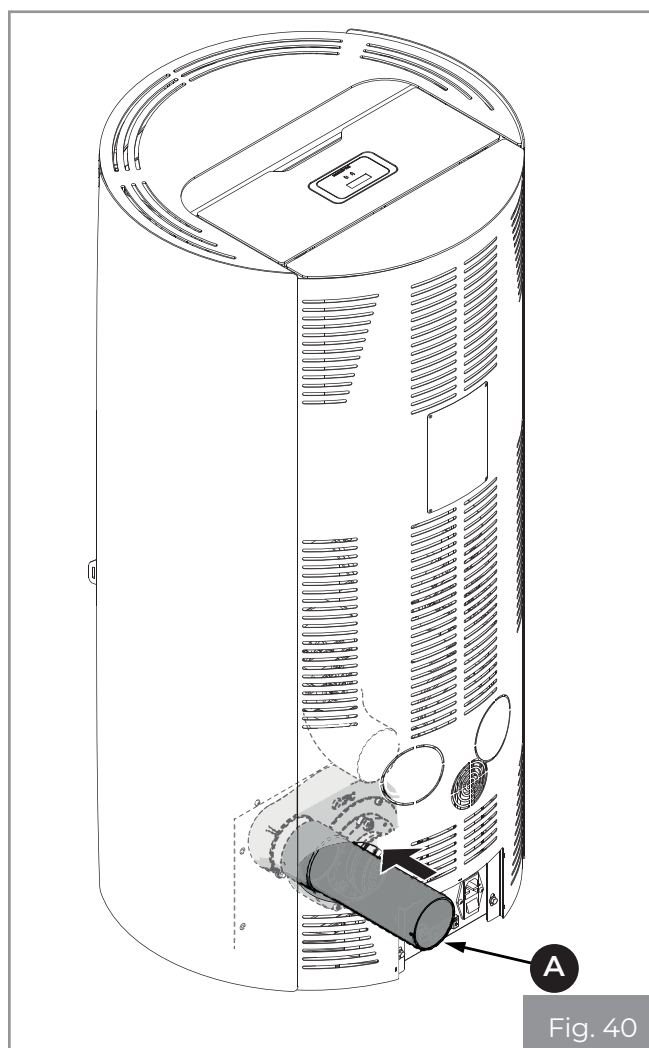

Fig. 40
- Connect the flue gas outlet pipe **(A)** **(Fig. 40)**.